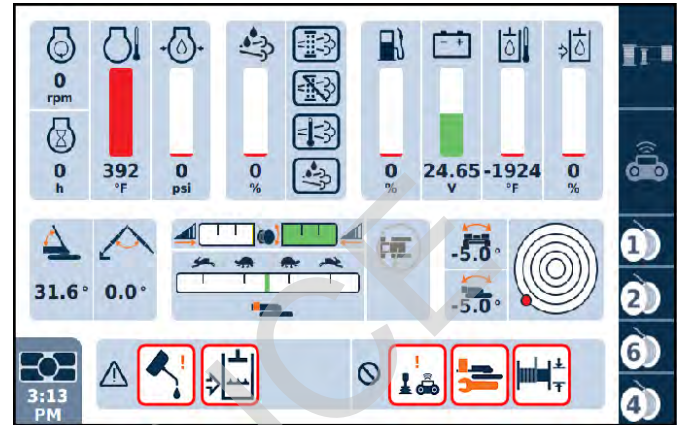

Figure 3-15. Working Screen
11. After the engine is started, the Working Screen shown in Figure 3-15 will appear in the Main Display.